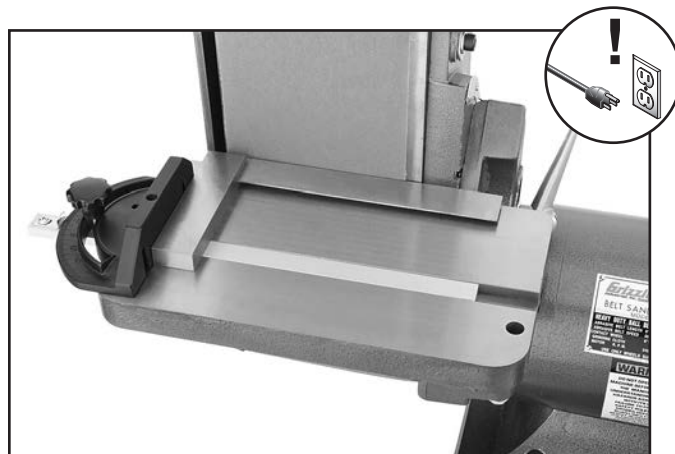

Figure 20. Positioning the miter gauge and square for aligning the table.
2. First, check the existing adjustment by sliding the miter gauge into the table T-slot, then positioning a 90° square flat against the miter face and up against the sanding surface, as shown in **Figure 20**.